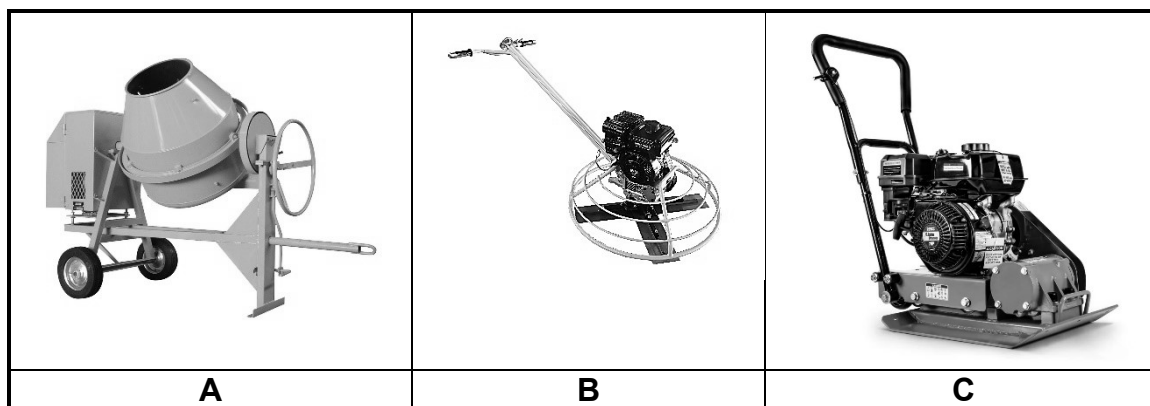

FIGURE 4.7
- 4.7 Tools and equipment are used extensively on a building site. Study the illustrations shown in FIGURE 4.7 below and answer the questions that follow.
- 4.7.1 Name THREE types of personal protective equipment that should be worn while using any of the equipment in FIGURE 4.7. (3 x 1) (3)